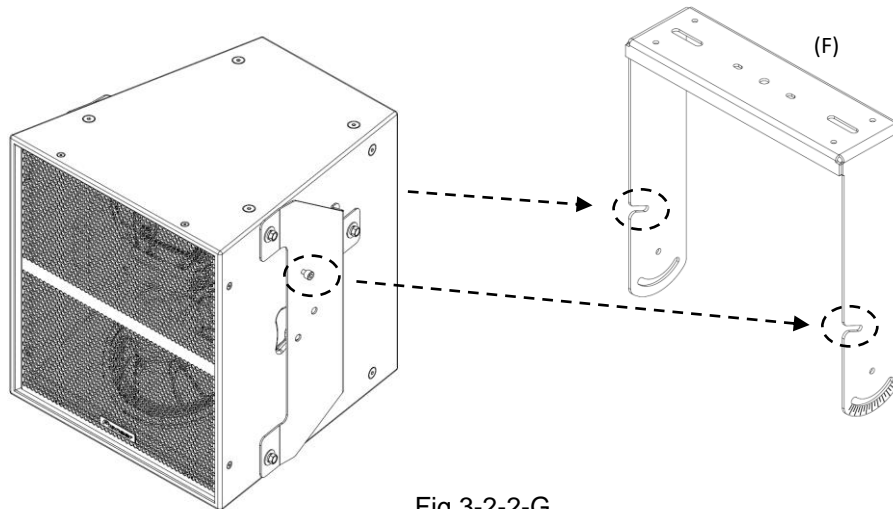

Fig.3-2-2-G
- (6b) Once the speaker is attached to the yoke, securely fasten the yoke fixing bolt and angle adjustment socket head bolt. (Fig.3-2-2-H)